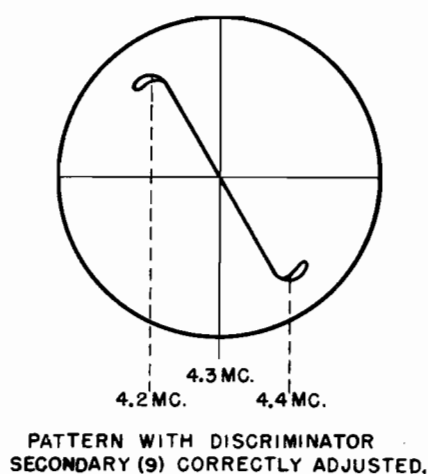

FIGURE 9.
6. Adjust discriminator secondary until a symmetrical pattern is obtained, with peaks occurring at about 100 Kc above and below 4.3 Mc and is substantially linear between peaks. The trace should pass through the intersection of the vertical and horizontal axis. The phase shifting network should be adjusted to give only a single pattern at all times. (See Figure 9).